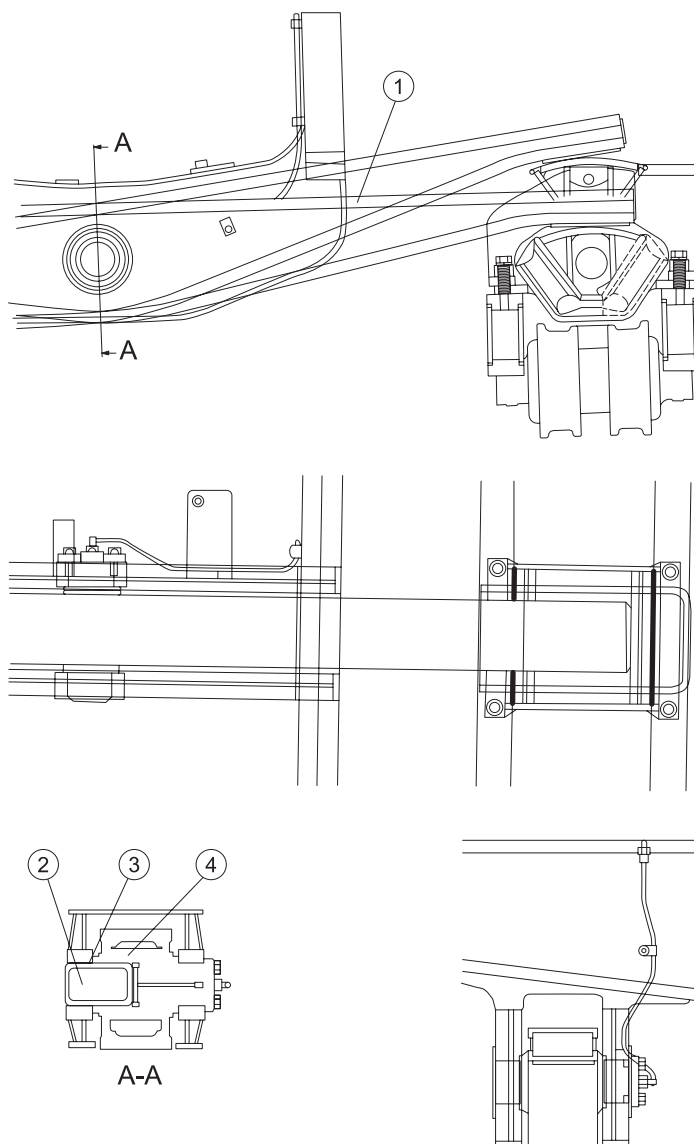

Figure 3-48
3.10.6 EQUALIZER BAR (SEE FIGURE 3-48)